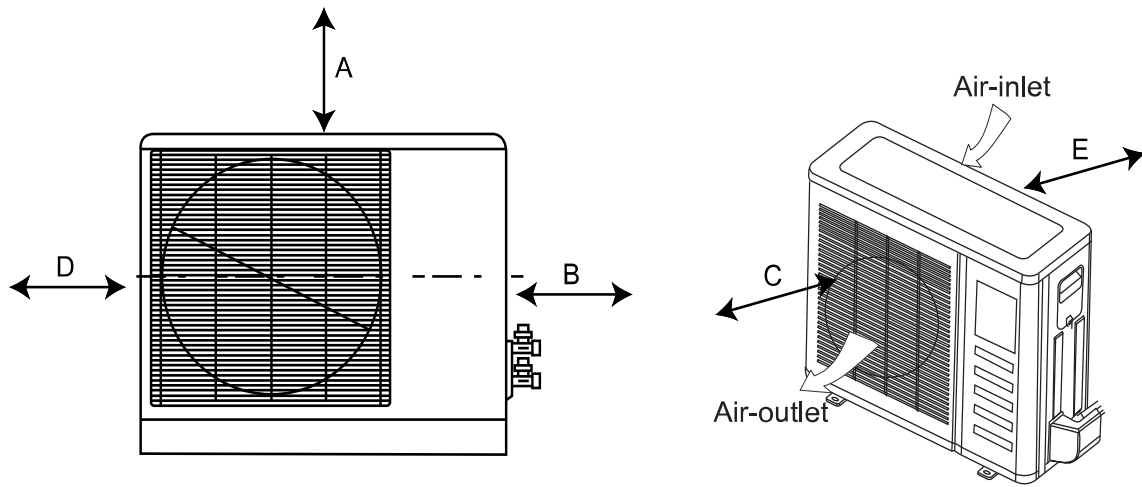

Fig. 9 — Clearances
Allow sufficient space for airflow and unit service. see Fig. 9 — on page 9 for the minimum required distances between the unit and walls or ceilings.
- A location with appropriate clearances as outlined (see Fig. 9 — on page 9).